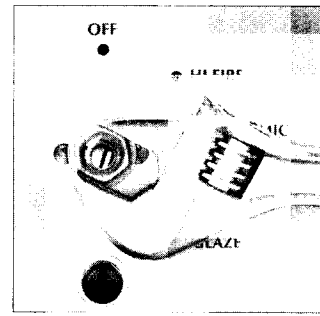

Figure 39
5. Free switch from control panel by removing pal nut with crescent wrench (see Figure 39).